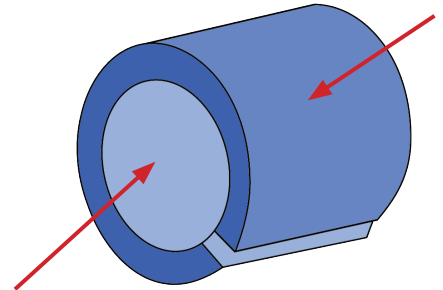

Figure 11
4. Apply Silicone grease to the inside and outside the grommet before wrapping around the cable. (Figure 11)